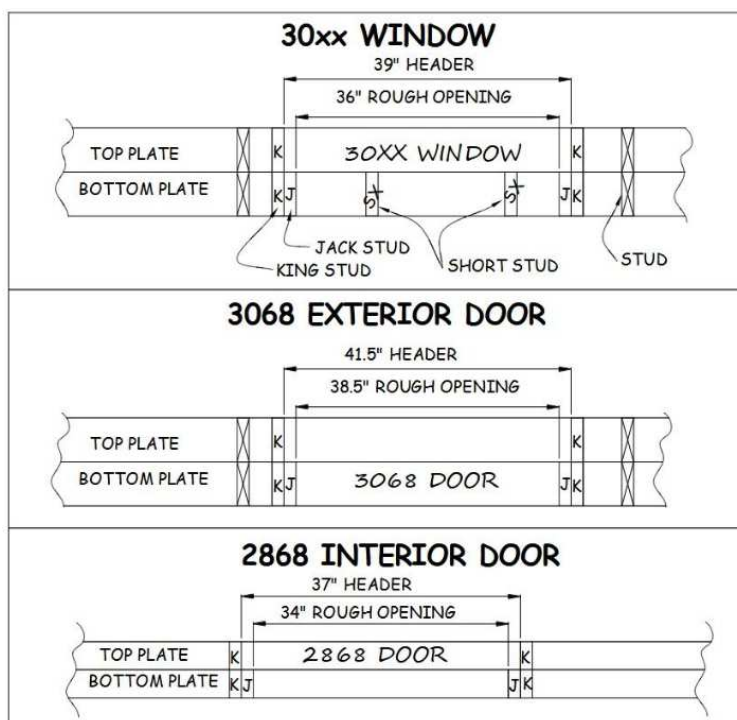
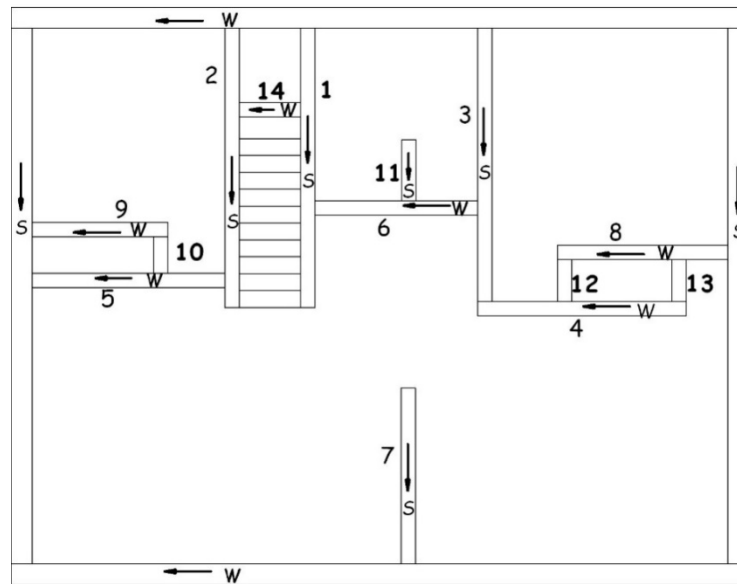

Figure 3-5. Plate Marking for Doors and Windows.
Figure 3-8. Plate Labeling Diagram.
3. Using the center-line that was marked for the door and window components, mark the rough opening and then the King and Jack stud locations. Referring to the window or door sizes indicated on the Plate Layout Drawing, measure and mark the location of the King and Jack studs supporting the header (see Figure 3-5). Window and door sizes are indicated with a four-digit code. The first two digits represent the width of the opening in feet and inches. The second two digits represent the height of the opening in feet and inches. For example, a 3040 window is 3'-0" wide by 4'-0" high (i.e., 36" wide by 48" high).
4. Label the King and Jack stud locations with "K" or "J" to specify the location of the pre-built window and door components during wall assembly. The Jack studs will always be to the inside of the King Studs. Stud width is always $1\frac{1}{2}"$. Label the location of both King and Jack studs on the bottom plate but label only the King stud on the upper plate (see Figure 3-5).
- a. Mark the inside edge of the upper plate with "UPPER" and the inside edge of the bottom plate with "BOTTOM" (see Figure 3-5). Mark the upper plate with a letter and arrow showing the compass orientation (north, south, east or west) of the plates while lying on the deck (see Figure 3-8).
5. When complete, label upper and bottom plates. Mark compass orientation and label both plates and deck with an identifying number (see Figure 3-8).